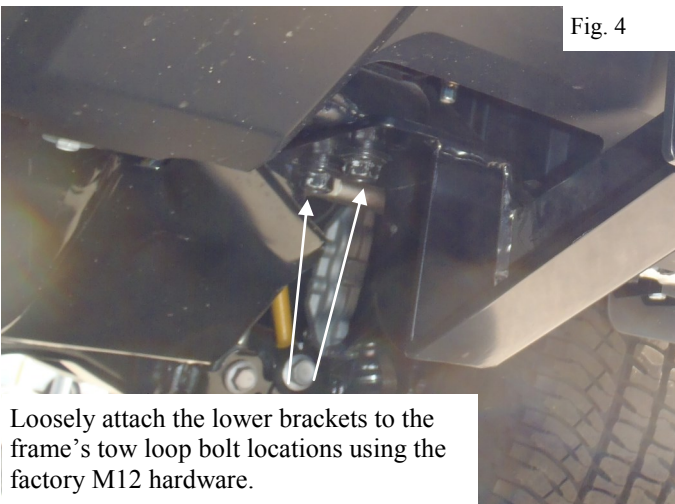

Fig. 4
7. Loosely install the Lower Mounting Brackets to the bottom of the frame at the tow hook locations using the factory hardware. Note: The Factory Tow Hooks/Loops cannot be re-used (Figure 4).